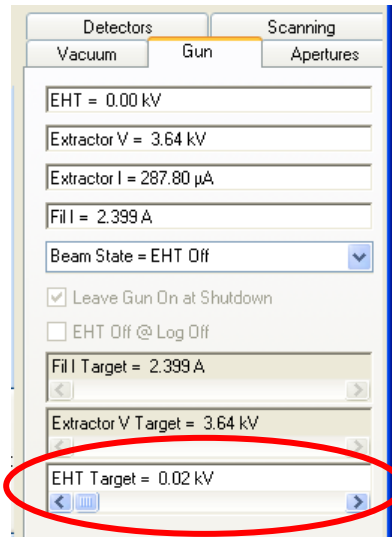

Figure 10: Gun tab.
6. Turn the EHT target to the desired value (for example 10keV). See Figure 10. If the target is larger than 22kV, then set the target to 22kV first.